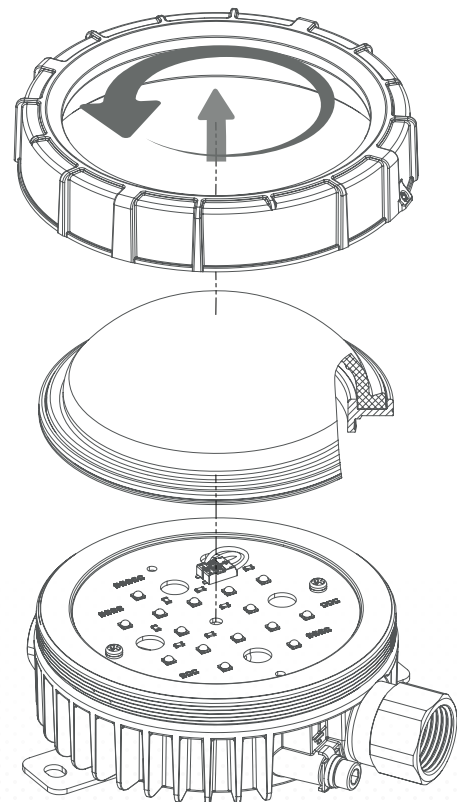

FIG. 3
- for Plafond HL and Plafond IL, this is the diffuser-holding ring with an embedded diffuser made of polycarbonate lens and the top housing (see Fig. 3).